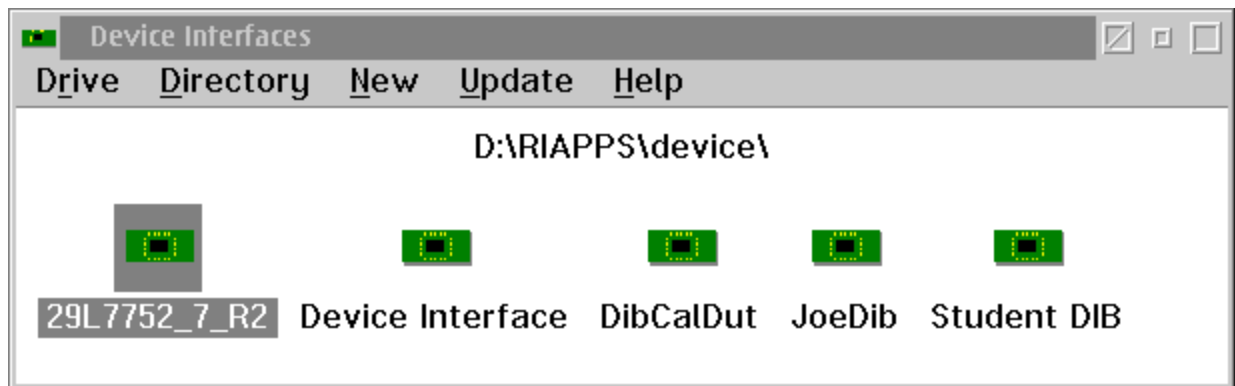

Figure 1
2. Under the **Programmers Message Window** select **T**est and then **D**evice **I**nterfaces. At this point a **Device Interfaces** window will open up (Figure 1). Select **N**ew and a **Fixture class** window will open up (Figure 2).